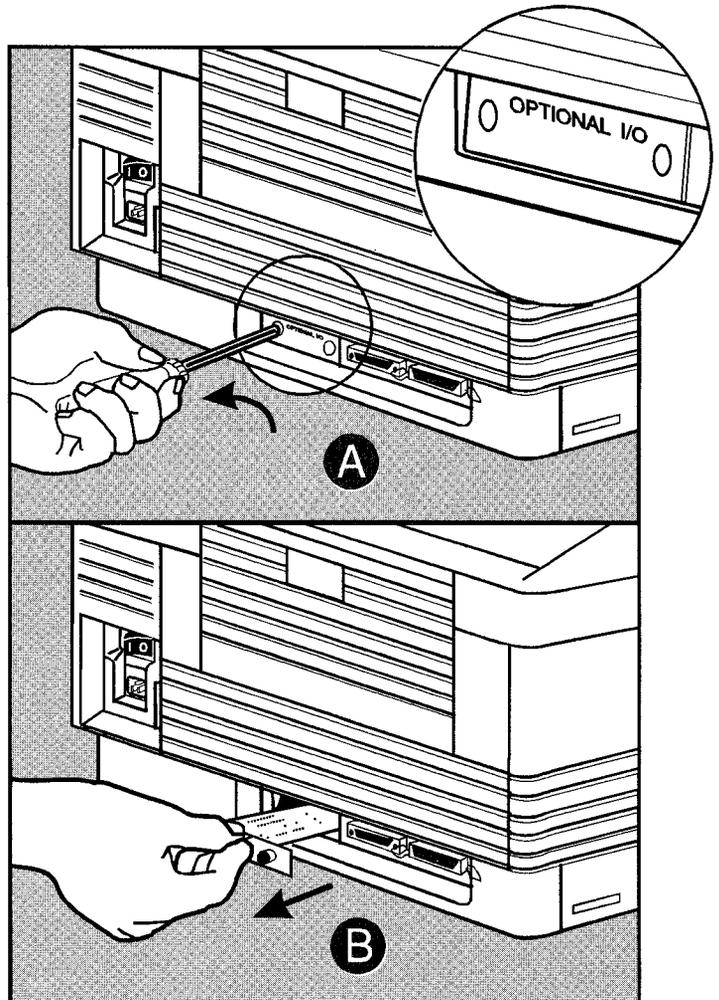

Figure 3-12. Removing the Existing Adapter Card
2. Locate the Optional I/O slot at the rear of the printer, near the center. See Figure 3-12.
- a. Completely loosen the two screws on the installed adapter card using a small Phillips-head (cross-point) screwdriver. See **A** in Figure 3-12.
- b. Remove the existing adapter card (if any) by pulling firmly on the card's handle. See ② in Figure 3-12. Store the card in the antistatic bag in which your 10BASE-T adapter card came.